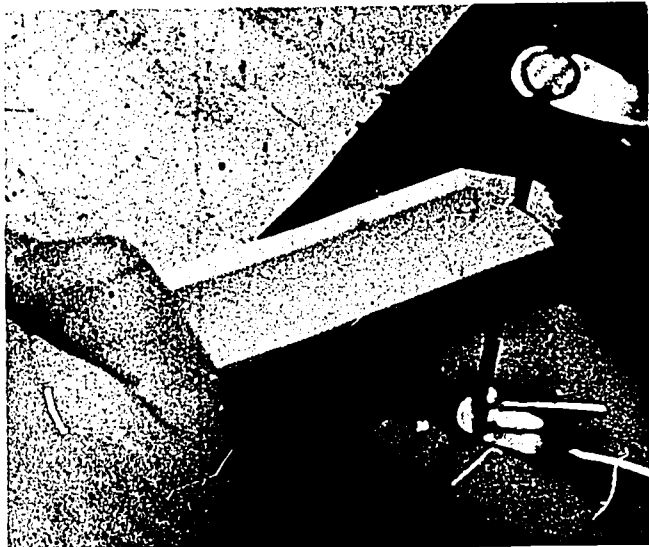

Fig. 64B-6. Sawing Coped End on Cove Molding
17. Set all nails as in Fig. 64B-7.